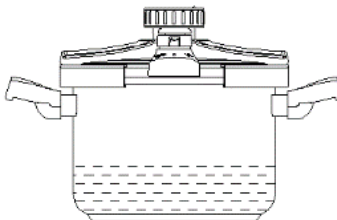

Fig.4
- Less than $\frac{1}{3}$ of the cooker height for expansive food such as rice, bean, etc. (Fig. 4);